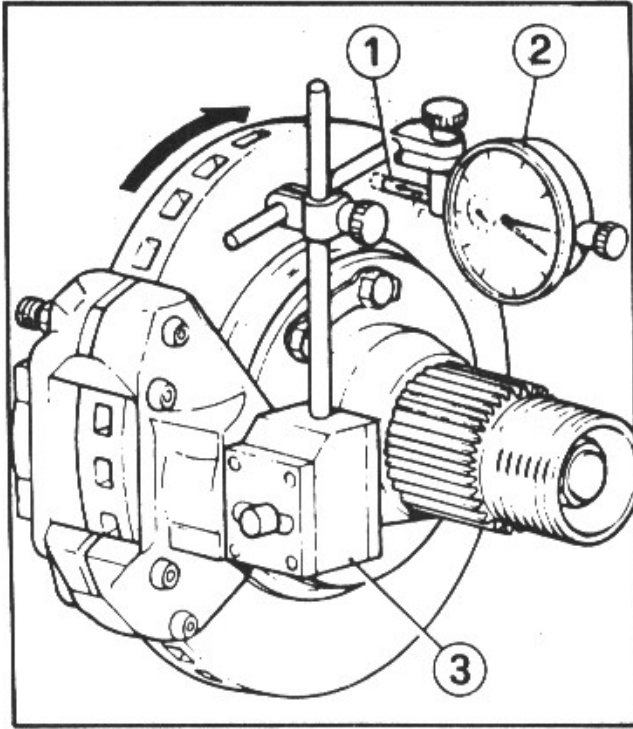

Fig. 85 Check of Brake Discs' Squareness
--Check the squareness of the front and rear discs in relation to their rotation axis (fig. 85). The maximum out-of-centeredness indicated at the dial gauge must not exceed 0.08 mm.; if it does, accurately check and control the mounting of the disc on the wheel hub. If out-of-centeredness persists, replace the disc.